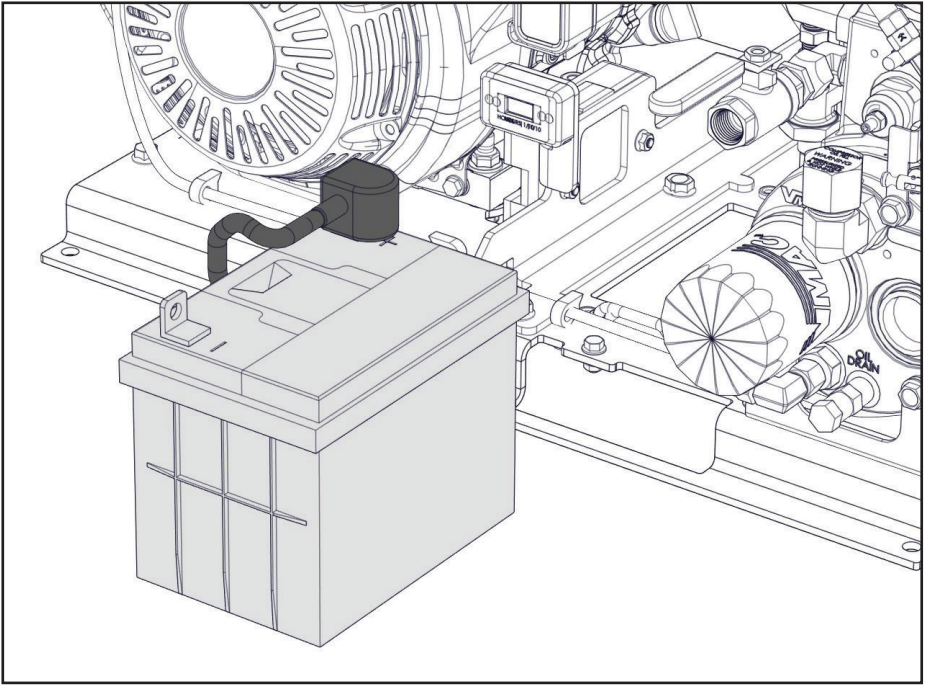

Figure 64 — Battery removal
- ☐ Pull the battery out of the front of the unit, once it is clear, disconnect the positive battery terminal (Figure 64).